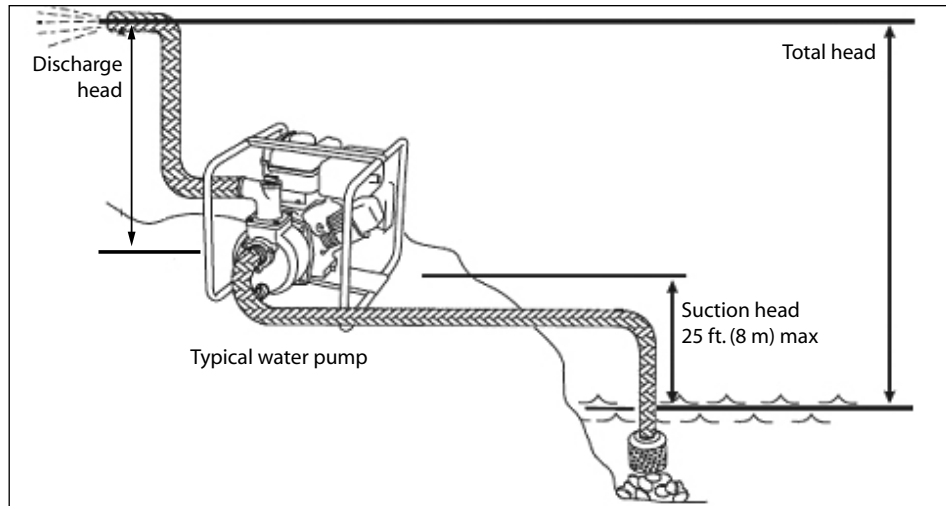

FIGURE 1
Use this pump for water only, where the vertical suction head from the water level is 25 ft. (8m) or less. Head refers to the height of a column of water that can be delivered by the discharge of the pump (Figure 1). Suction head (or suction lift) is the vertical distance between the center of the pump and the surface of the liquid on the suction side of the pump. Discharge head is the vertical distance between the pump's discharge port and the point of discharge. Total head is
- LOCATION:** For permanent installation, put the pump in a clean, dry, and ventilated place (Figure 1). **Keep the suction line as short as possible.** This will allow the pump to operate at maximum performance and to ensure that the casing does not overheat due to the absence of water.